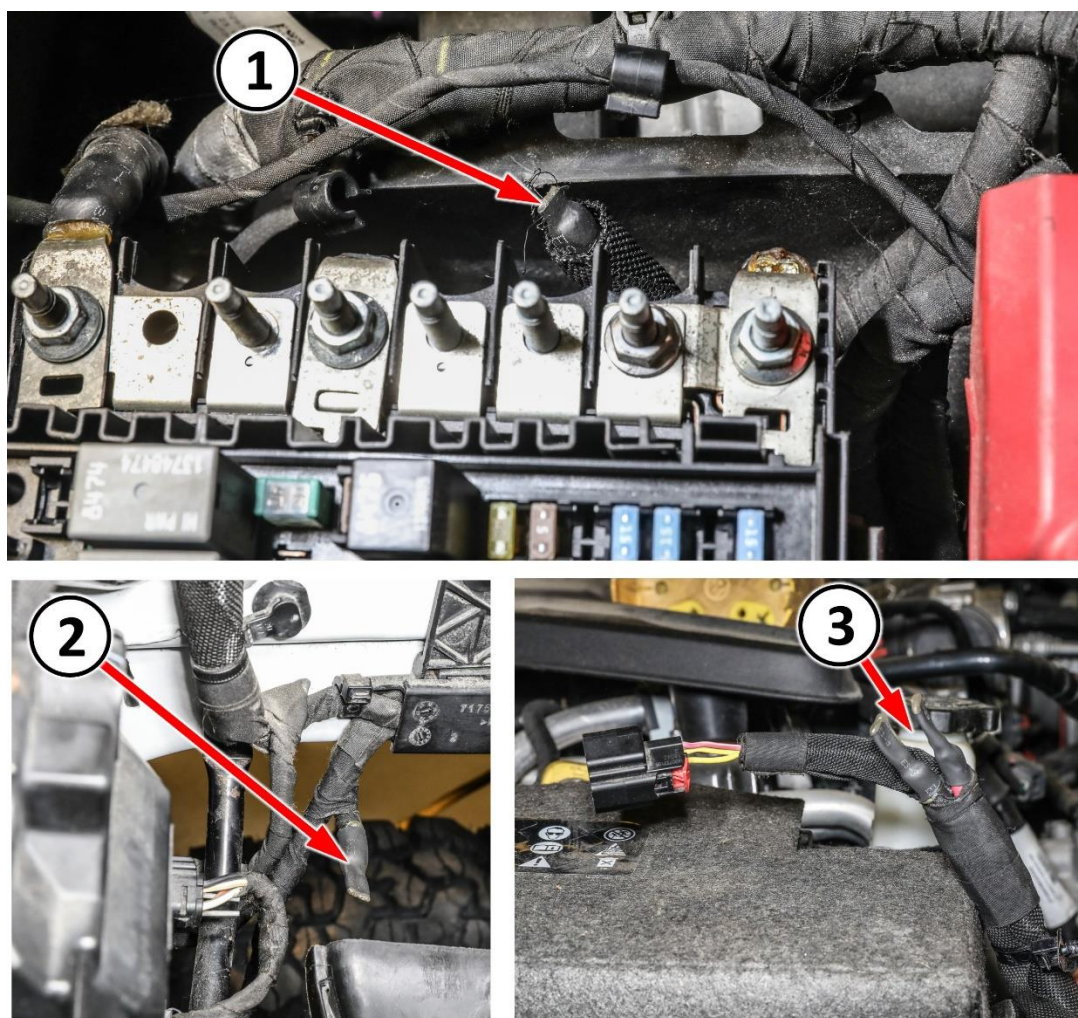

Figure C9 – Seal Exposed Ends of Cut EHPS Wires
31. Use locally sourced heat shrink tubing to seal the exposed end where EHPS power supply eyelet D6630J was removed (Figure C9).
32. Use locally sourced heat shrink tubing to seal the exposed end where EHPS ground eyelet G908A was removed (Figure C9).
33. Use locally sourced heat shrink tubing to seal the exposed ends where EHPS connector D2704A was removed (Figure C9).